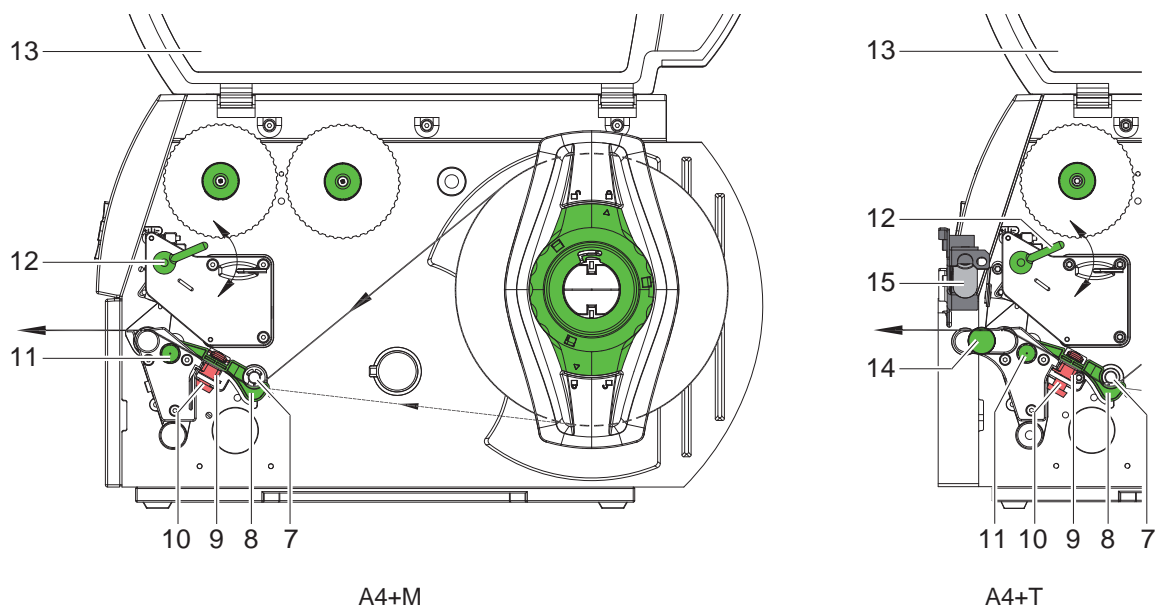

Fig. 8 Material feed path
- ▶ Loosen the knurled knob (10, Fig. 8) and position label sensor by moving the knurled knob in such a way that the sensor can detect the label gap or a reflex or cut-out mark.
- ▶ Turn lever (12) clockwise to lock the printhead.